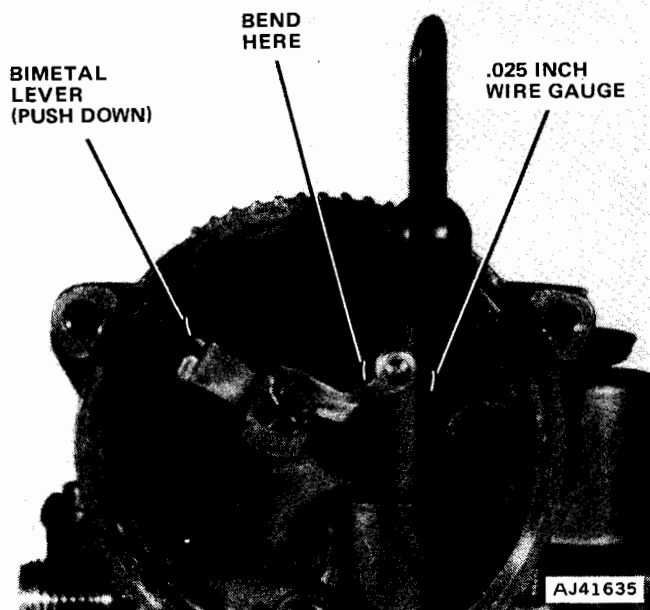

Fig. 4-29 Initial Choke Valve Clearance Adjustment
- (1) Bend a 0.025-inch wire gauge at a 90° angle approximately 1/8 inch from end. Partially open throttle and close choke valve to position choke piston at top of its bore.
- (2) Holding choke valve fully closed, release throttle and insert wire gauge into piston slot and against outboard side (right side of choke shaft) of piston bore. Push piston downward with gauge until bent end of gauge enters slot in piston bore. With gauge in place, push on choke shaft bimetal lever in counterclockwise direction to move piston upward, locking gauge in place (fig. 4-29).
- (3) Measure clearance between lower edge of choke valve and air horn wall (refer to Carburetor Service Specifications for the correct setting).